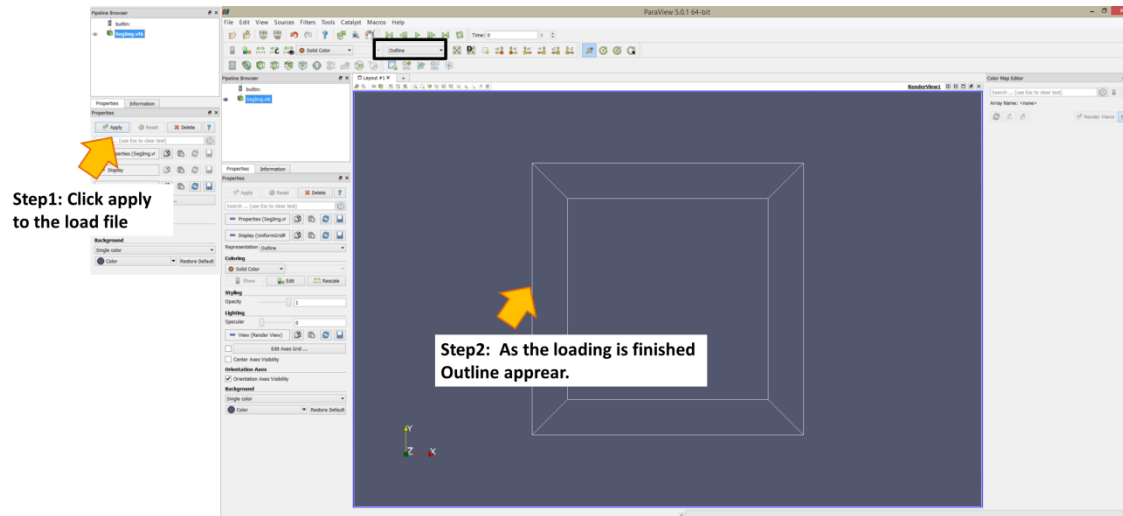

Figure 50: VKT file loaded in ParaView
- Step 1 (Figure 50): Once the file has been loaded, click the apply button to send the data to be read into ParaView. The reading may take time, depending on the system configuration.
- Step 2 (Figure 50): If the reading has been successfully completed, an outline or bounding box appears.